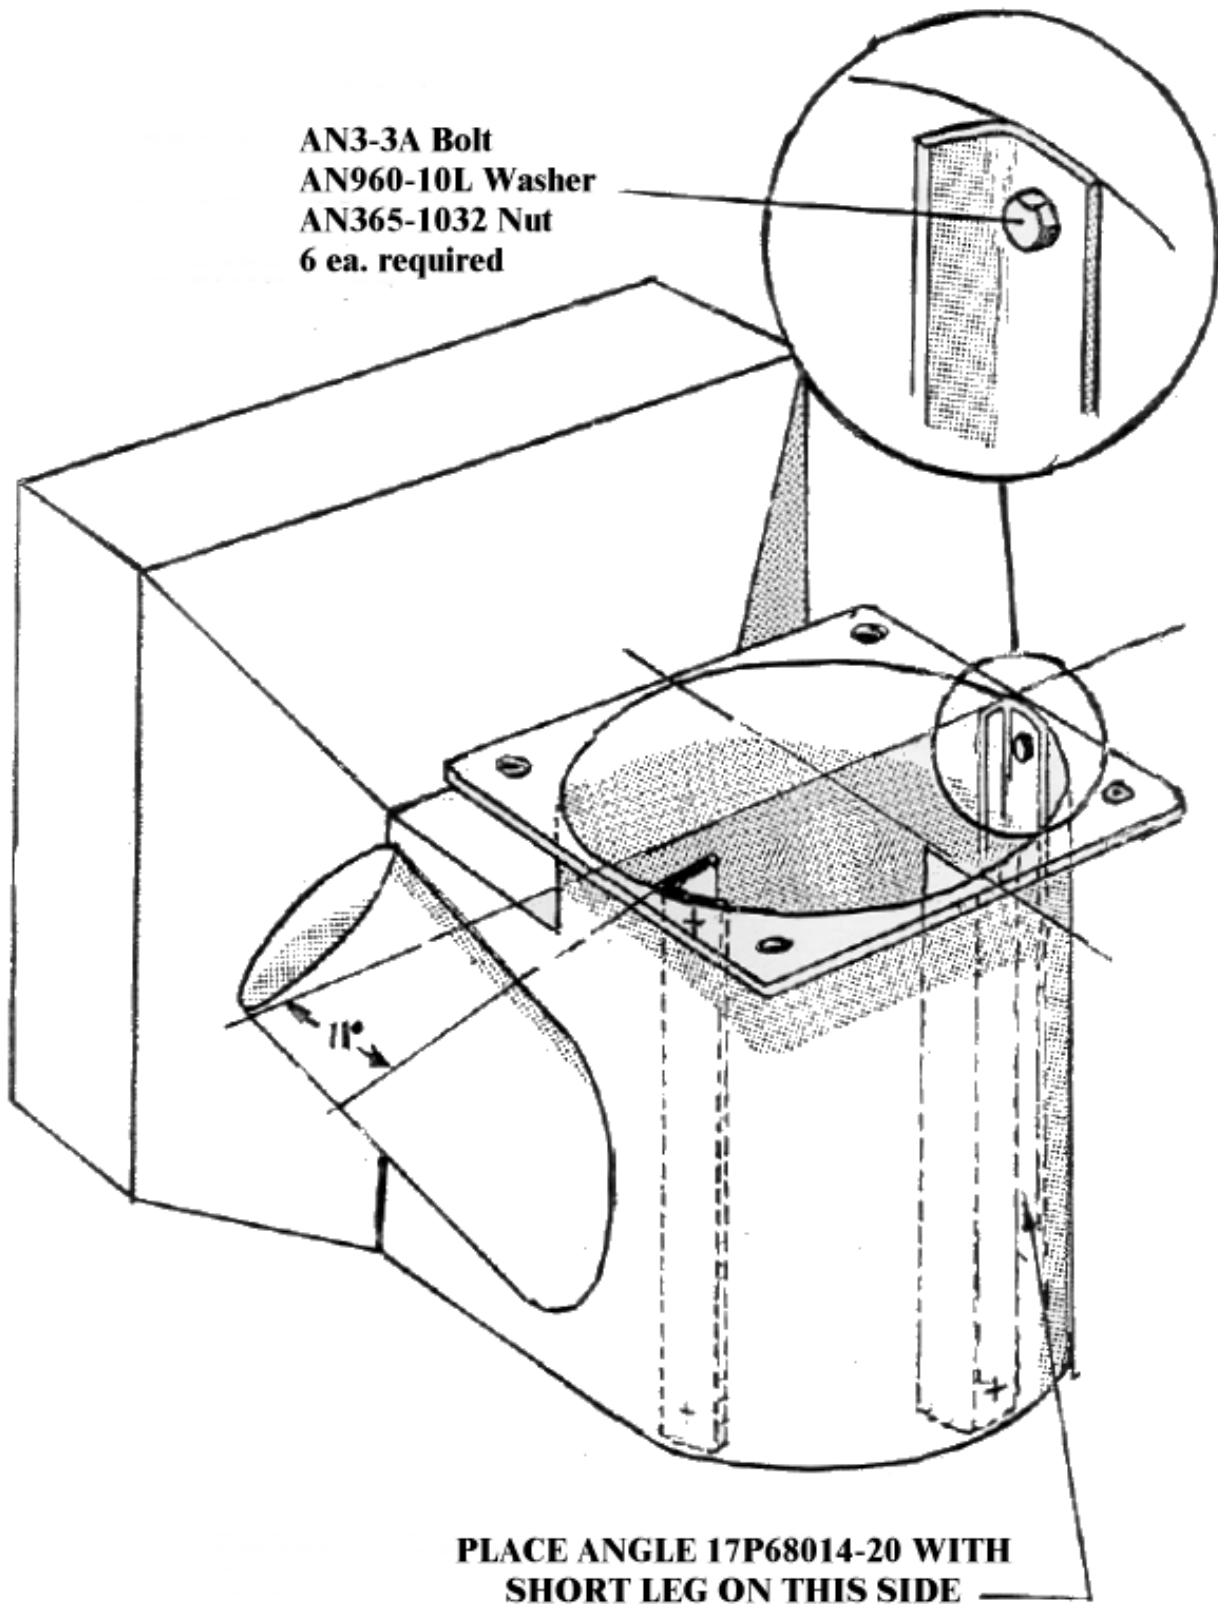

Figure 1
4. Locate anti-swirl vanes as indicated in Figure 1, drill #10 (.193) holes through air intake duct to match holes in vanes and attach vanes with AN3-3A bolts, AN960-10L washers and AN365-1032 nuts provided. Washers and nuts are to be on the outside of the air intake duct.